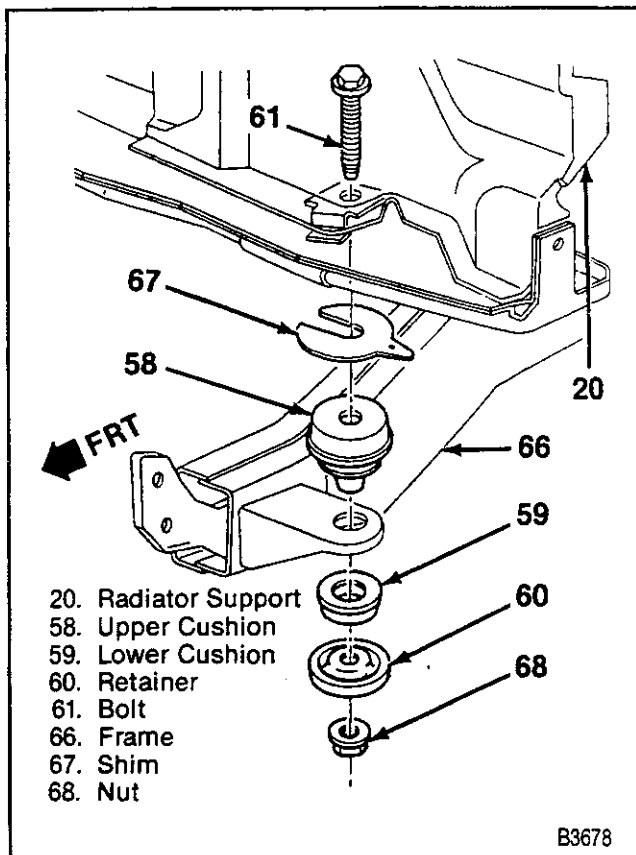

Figure 22—Radiator Support Mounting
17. Bolt holding the support mount to the vehicle (figure 22).
4. Upper mounting cushion and shims between the support and the bracket on the frame (figure 22).